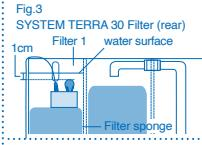

Fig.3
④ Set the MISTFLOW stably on top of Filter sponge in Filter 1. (Fig. 3, 4)